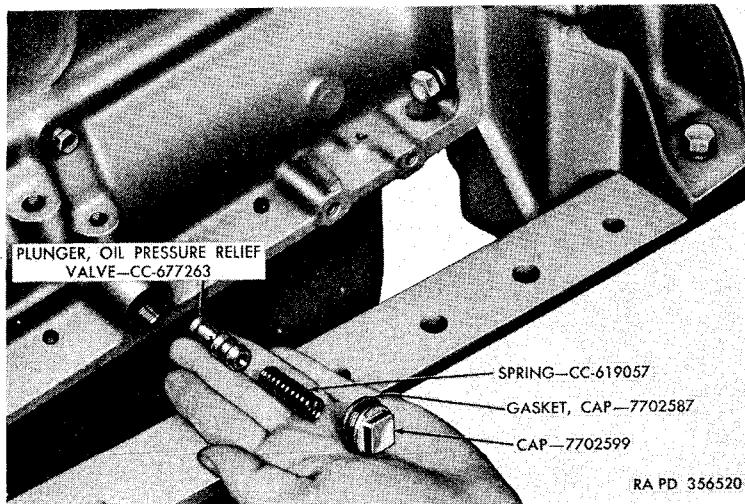

Figure 28. Removing oil pressure relief valve.
- (2) Remove the oil level bayonet type gage, with cap assembly.
- (3) Unscrew oil level gage pipe and remove from cylinder block.
- f. *Oil Pressure Relief Valve* (fig. 28).
- (1) Remove cap and cap gasket.
- (2) Remove spring and oil pressure relief valve plunger.